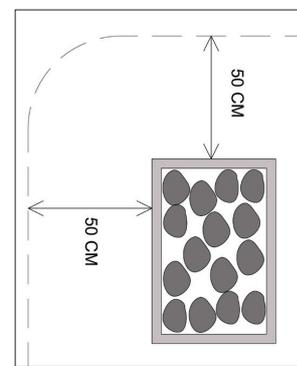

Fig. 2
- Secure the luminaire to the desired position with the supplied screws. Do not mount the luminaire directly above the sauna stove and maintain a minimum distance of 50 cm (see Fig. 2).